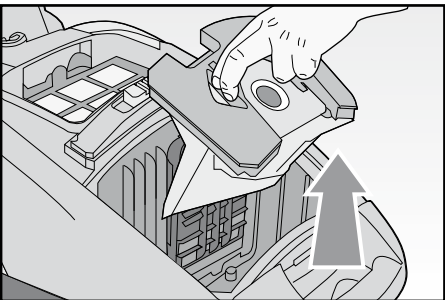
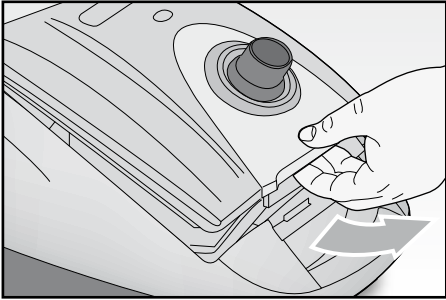

Fig. 8
Fig. 7
- lift the bag compartment by pushing the relevant lever outwards (FIG. 7);
- Extract the small bag, together with its support (FIG. 8); be careful not to tear it; make the rigid part of cartoon slip into the apposite guides and throw it away into the trash bin.
- Open the division (FIG. 7) and remove the small bag (FIG. 8).
- Open the bag division pushing the apposite lever outside (FIG. 7).